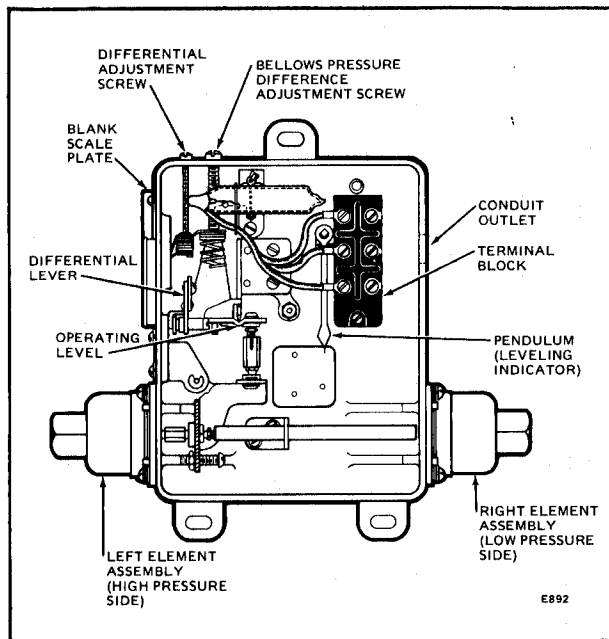

FIG. 5—INTERNAL VIEW OF THE 2-POSITION CONTROLLER.
Mount the controller on a surface that is free of excessive vibration. Level the control using the leveling pendulum (Fig. 5). This is necessary for proper mercury switch operation.
3. Turn the differential adjustment screw and the pressure difference adjustment screw counterclockwise (Fig. 5 or 6) until the scale indicators reach the low (minimum) end of the scale.